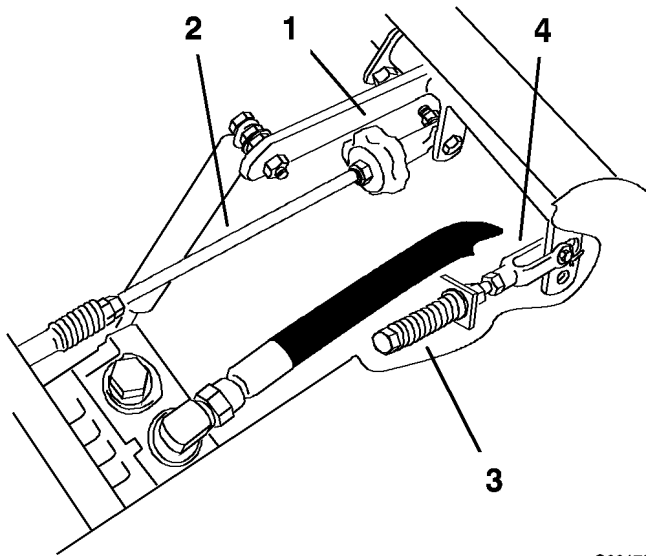

Figure 55
2. Adjust the pump rod length by rotating the knob, in the appropriate direction, until the wheel is still or slightly creeping in reverse (Figure 55).